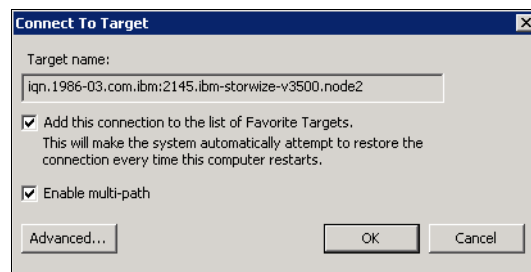

Figure 5-47 Connect to a target
- Highlight the inactive port and click **Connect**. The Connect to Target window opens, as shown in Figure 5-47.